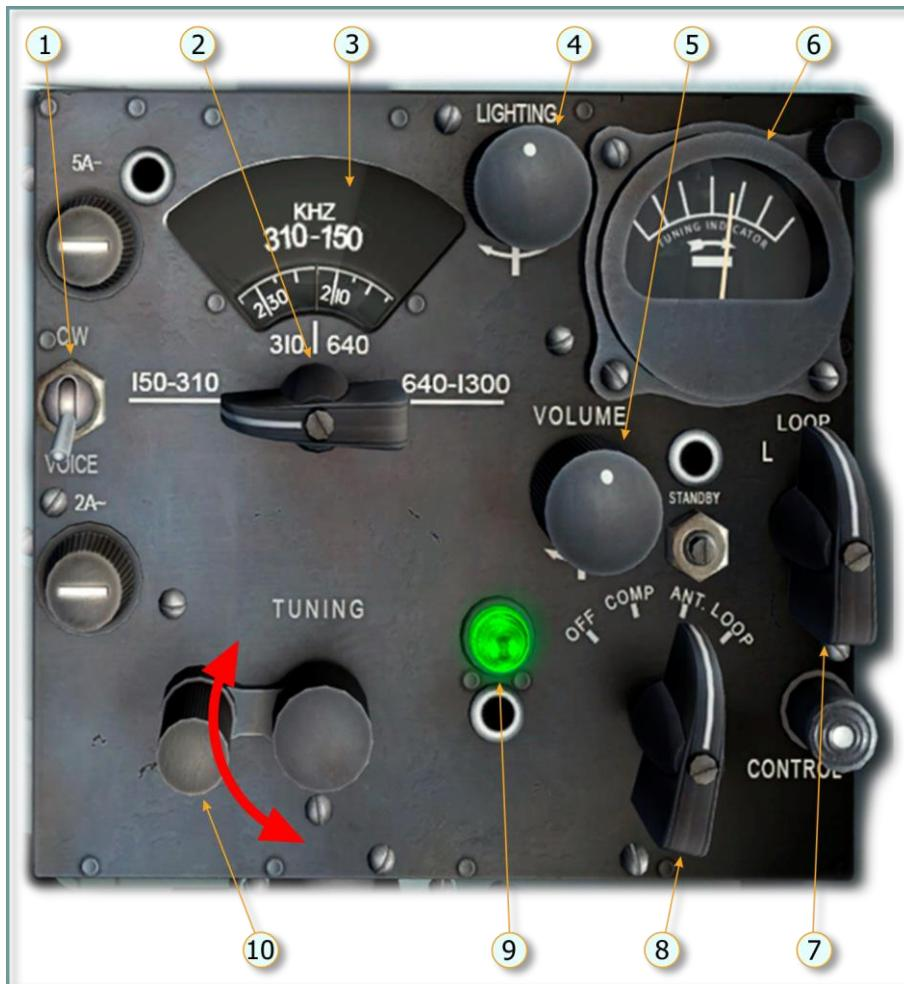

Figure 6.6. ARK-5 K-7 control panel
The K-7 control panel (Figure 6.6) is located on the right side of the cockpit.
3. Turn on the direction finder in non-directional antenna mode by rotating the ARK-5 mode selector switch (Figure 6.6, 8) to the АНТ. (АНТ.) position. Wait 1-2 minutes while the vacuum radio tubes are warming up.
5. Set the volume knob (5) in the rightmost position.
8. Select the desired frequency range using the three-position ARK-5 frequency range selector switch (Figure 6.6, 2, 3).
9. Use the precise frequency tuning crank (10) to rotate the frequency scale until the desired frequency is indicated over the vertical (relative to scale) pointer.
For switching frequency ranges, an electrical motor is installed in the ARK-5 unit. It is controlled by rotating the frequency range selector switch (Figure 6.6, 2), when the ПРИВОДНОЙ БЛИЖ – ДАЛЬН (NEAR-FAR NDB) switch is set to ДАЛЬН (FAR) position. If this switch is set to the БЛИЖ (NEAR) position, then the electrical motor control circuit is controlled by switches 1-3 on the near NDB frequency range control panel and not by the selector switch.
Thus, when one of these switches is enabled, the pre-defined (in mission editor) frequency range will be automatically selected by the electrical motor independently of selector switch position. The ARK-5 receiving contour starts working on the frequency which was specified for this channel in the mission editor and the indicator will indicate the current operating frequency range (Figure 6.6, 3).